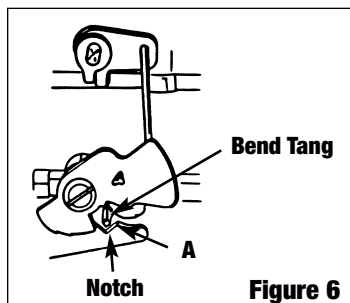

Figure 6
- **SECONDARY THROTTLE LOCK OUT, ELECTRIC CHOKE EQUIPPED CARBURETORS ONLY (FIG. 6)**